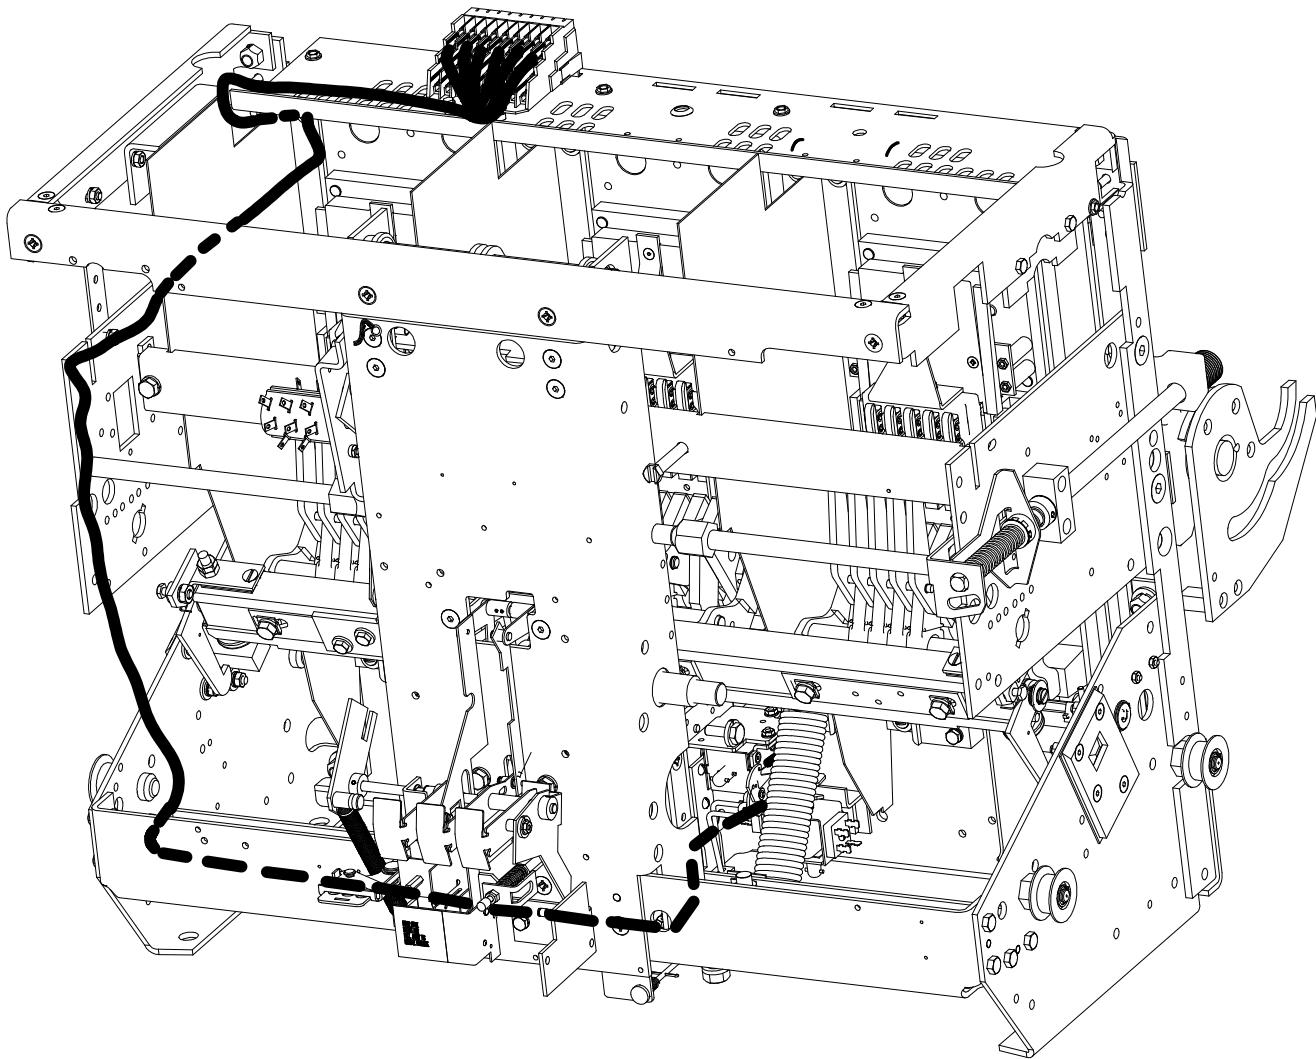

Figure 8. Wire routing from the Network Interlock to the secondary disconnect
15. Route the wires from the Network Interlock to the secondary disconnect as shown in Figure 8 and secure them with cable ties.